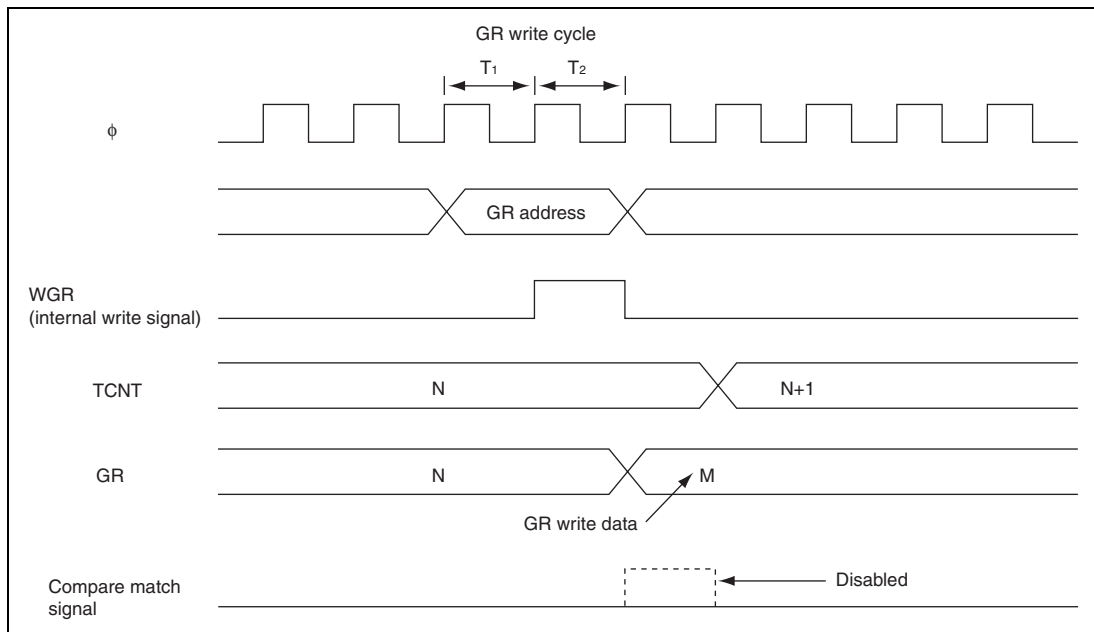

Figure 13.54 Contention between GR Write and Compare Match
3. Contention between GR Write and Compare Match: If a compare match occurs in the T_2 state of a GR write cycle, GR write has priority and the compare match signal is disabled. Figure 13.54 shows the timing in this case.